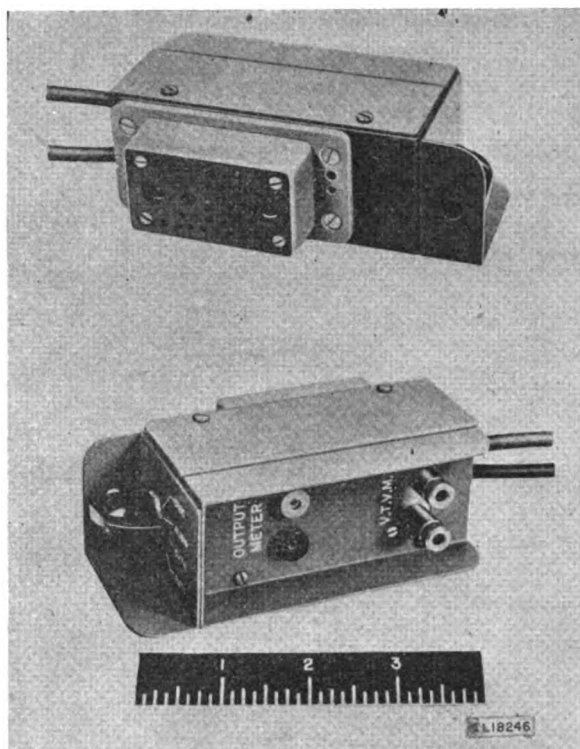

Figure 16. Adapter FT-384-(*), front and back views.
(1) Connect Cord B (table I) directly between the battery and pins 1 and 2 of plug PG201.
(2) Connect Cord CD-786 (table I) between the amplifier and Mounting FT-237-(*), checking to make sure the latter is connected to the battery source with proper regard to the polarity.
(3) Plug Adapter FT-384-(*) (fig. 16 and table I) into plug PG201 and connect the adapter battery leads of the proper polarity to the battery source.